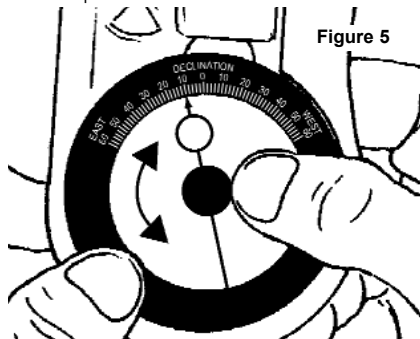

Figure 5
2. Locate declination scale on the bottom of the azimuth ring. (Fig 5)
3. Grasp azimuth ring in one hand, and the vial in the other. (Fig 5)